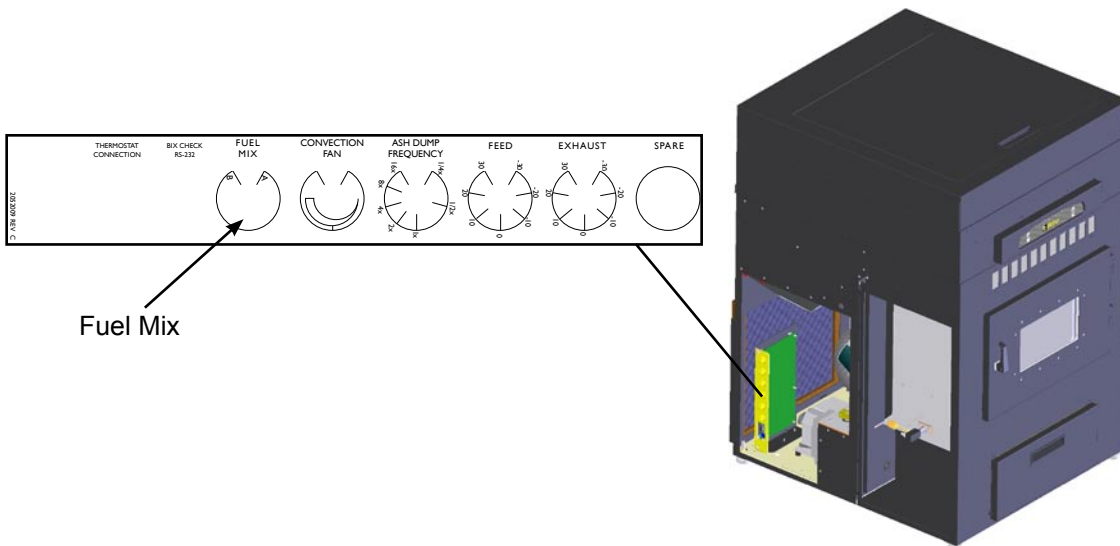

FIGURE 23
- The UBB is configured to burn corn from the factory. To burn wood pellets, simply open the left side panel and locate the Control Board Trim Pot Panel. Rotate the knob labeled "Fuel Mix" from A to B. See Figure 23.